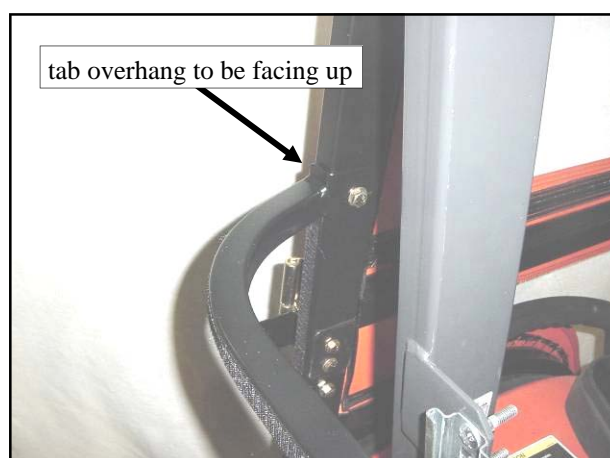

Fig. 15.1 (view from rear of right side)
**15.1** Install the lower rear tube so that the welded tab overhang is facing upward. Use the following hardware per side: one 5/16-18 x 3/4" long hex head bolt and one steel washer into factory installed threaded inserts in the side frame tubing. See fig. 15.1. Push the lower rear tube forward as far as it will go and tighten both bolts.